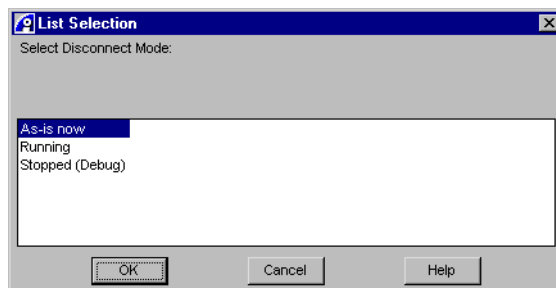

Figure 2-15 Disconnect Mode selection box
2. Select **Disconnect (Defining Mode)**... to display the Disconnect Mode selection box, shown in Figure 2-15.